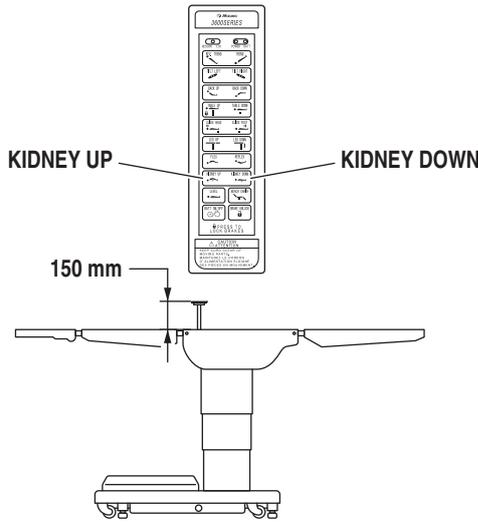

Figure 2-14. Kidney Lift Positioning
i. **Kidney Lift** To raise the built-in kidney lift, press the KIDNEY UP button (figure 2-14). Up to 150 mm of lift can be achieved. Press the KIDNEY DOWN button to lower the kidney lift.